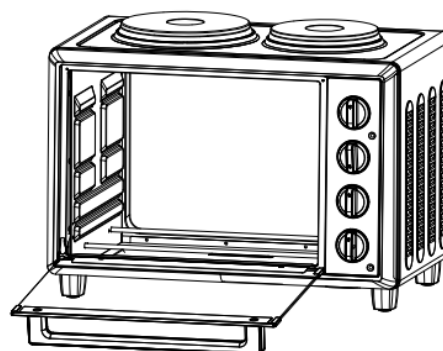

Fig. 11
8. If grilling or toasting leave the oven door ajar (Fig. 11) .